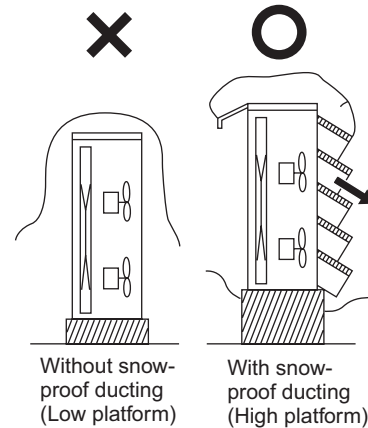

Fig. 1-15
In regions with snow and strong wind, the following problems may occur when the outdoor unit is not provided with a platform and snow-proof ducting: (Fig. 1-15):
- (1) The platform should be higher than the max. snow depth. (Fig. 1-15)
- (2) The 2 anchoring feet of the outdoor unit should be used for the platform, and the platform should be installed beneath the air intake side of outdoor unit.
- (3) The platform foundation must be firm and the unit must be secured with anchor bolts.
- (4) In case of installation on a roof subject to strong wind, countermeasures must be taken to prevent the unit from being blown over.